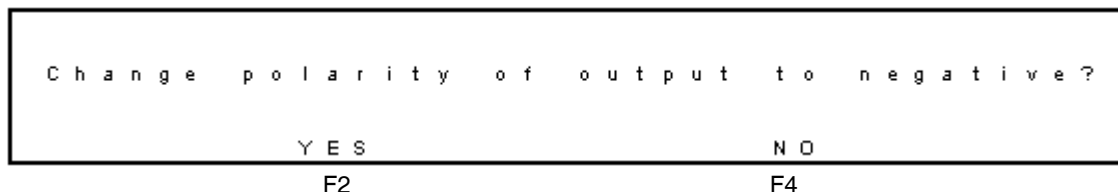

Figure 3-40 Change Polarity to Negative Screen
- If the polarity is positive, the Change Polarity to Negative screen appears (Figure 3-40). To change it to negative, select **F2 YES**. The Pulse Setup2 screen appears.